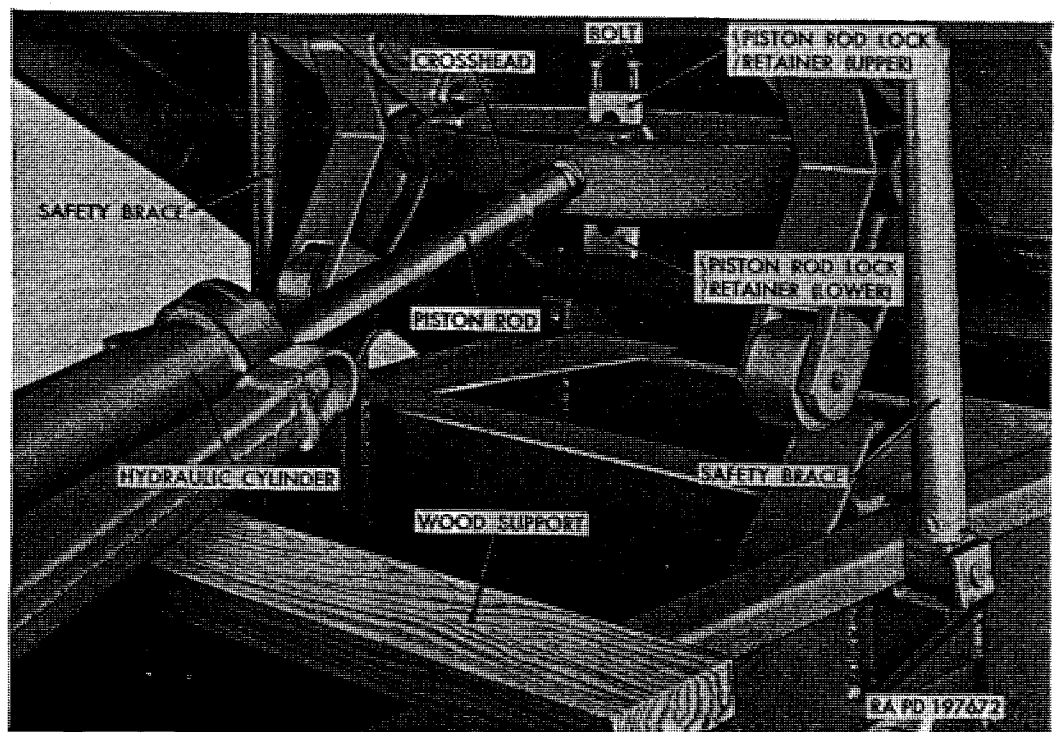
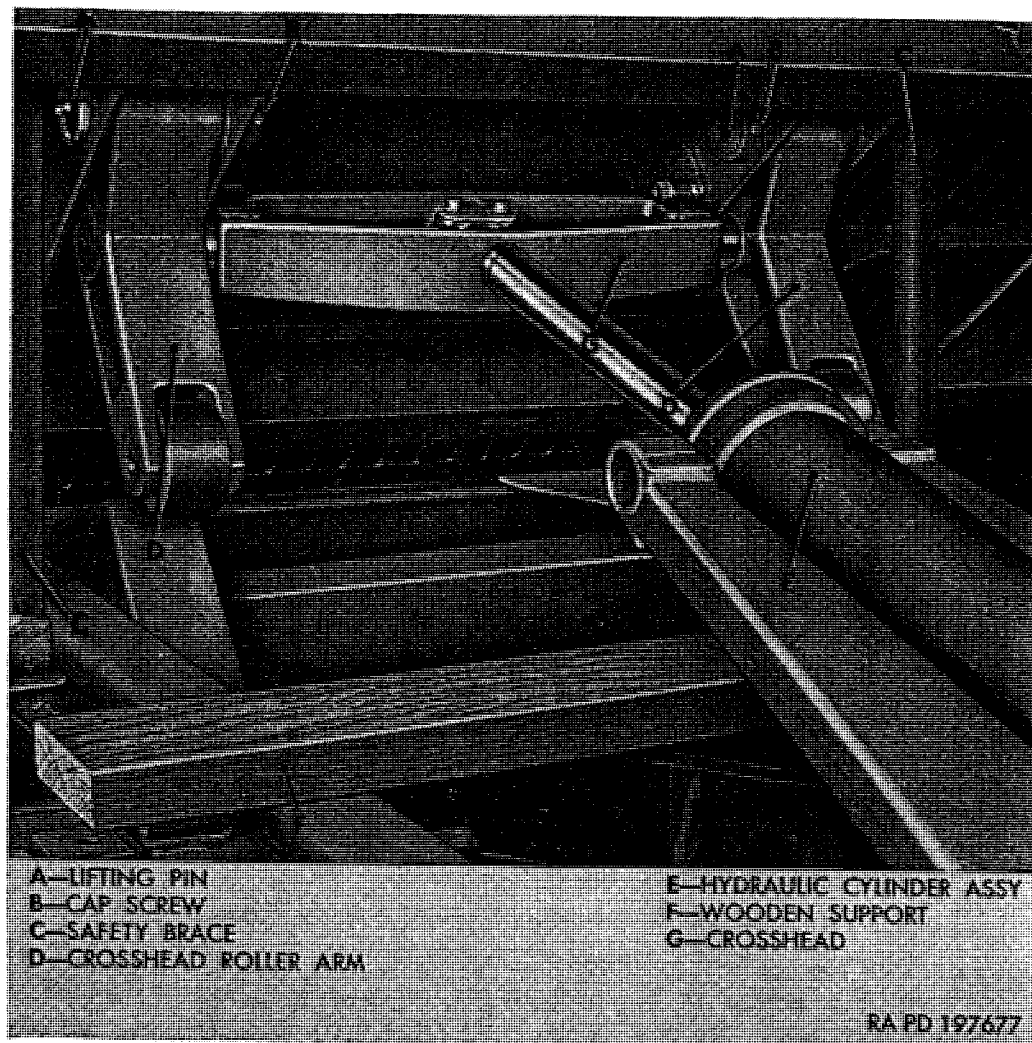

Figure 354. Piston rod to crosshead lock retainers.
Figure 356. Hoist crosshead and roller arms installed.
- (1) *Coordination with ordnance maintenance unit.* Refer to paragraph 2 for information on coordination with an ordnance maintenance unit.
- (2) *Raise body.* Raise body and position safety braces as directed in paragraph 51d.
- (3) *Install wood support.* Position a wood support approximately 2 x 6 x 48 across top of subframe and under hydraulic cylinder (fig. 354) to support cylinder when piston rod is disconnected from crosshead.
- (4) *Disconnect piston rod.* Remove two bolts from piston rod lock retainer; then remove upper and lower retainers from crosshead as shown in figure 354.
- (4) *Connect piston rod.* Pull piston rod out of cylinder until it can be inserted into crosshead as shown in figure 354. Install lower and upper piston rod lock retainers in crosshead and around groove in piston rod. Install two $\frac{3}{8}$ -24 x $2\frac{1}{2}$ bolts securing retainers in crosshead.
- (5) *Fill fluid reservoir.* Fill reservoir with fluid specified on lubrication chart (par. 69) as directed in paragraph 325*d*.
- (6) *Operate hoist.* Operate hoist as directed in paragraph 51*b* until system is free of air and fluid level is at center mark on dipstick gage (par. 325).
- (1) *Raise body.* Raise body and position safety braces as directed in paragraph 51*d*.
- (2) *Install wood support.* Refer to paragraph 328c(3).
- (3) *Remove lifting pins.* At each side, remove nut, lockwasher, and cap screw (B, fig. 356) securing lifting pins (A, fig. 356) to body. Use drift pin and hammer to drive lifting pins from body and roller arms.
- (2) *Operate hoist.* Operate hoist as directed in paragraph 51b until crosshead roller arms are in their approximately correct position at body.
- (3) *Install lifting pins.* Install lifting pins (A, fig. 356) through body braces and crosshead roller arms (D, fig. 356). Install one $\frac{5}{16}$ -24 x $3\frac{1}{4}$ cap screw (B, fig. 356), retaining pin to body and secure with $\frac{5}{16}$ -inch lockwasher and $\frac{5}{16}$ -24 nut. Install lubrication fitting in each lifting pin. Lubricate as instructed on lubrication chart (par. 69).
- (4) *Lower body.* Operate hoist as instructed in paragraph 51b until safety braces can be lowered and wooden support (fig. 356) can be removed. Lower body to subframe.
a. General. Hoist crosshead (G, fig. 356) is used between two crosshead roller arms and is connected to hoist cylinder piston rod (fig. 354).
- (1) Remove crosshead roller arms (par. 329b).
- (2) Remove two bolts from piston rod lock retainers; then remove upper and lower retainers from crosshead, and remove crosshead from piston rod (fig. 354).
- (1) Install crosshead to piston rod as shown in figure 354 (par. 328d(4)).
- (2) Install right and left crosshead roller arms on crosshead and secure to body (par. 329c).